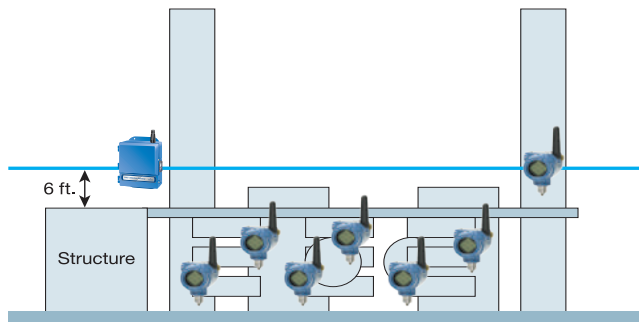

Figure 4-30: Wireless Mounting Guideline
- Proper height from ground or structure and with respect to neighboring device(s), see Figure 4-30